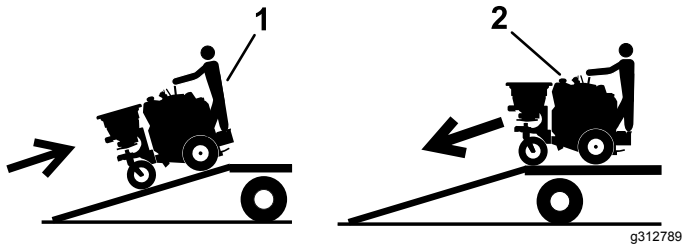

Figure 57
5. Back the machine up the ramp (Figure 57).